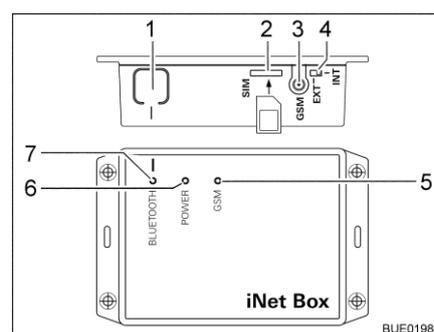

Fig. 83 Truma iNet-Box
- Press the BLUETOOTH button (Fig. 83,1) on the iNet-Box for 1 second. The Truma iNet-Box will be visible in the mobile terminal for approx. 2 minutes (name: "Truma iNet-Box"). During this period, the blue BLUETOOTH LED (Fig. 83,7) will be flashing.
- Carefully insert the mini SIM card with own telephone number and sufficient credit into the slot (Fig. 83,2) of the Truma iNet-Box as shown until it engages. The red GSM LED (Fig. 83,5) must be flashing continuously. If the red LED goes out after 20 seconds: Check mini SIM card.